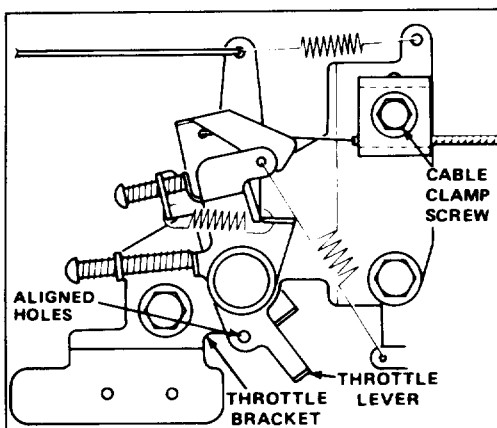

Figure 16
3. Loosen cable clamp screw until throttle cable slides (Fig. 16). Align holes in throttle lever and throttle bracket. Pull throttle cable slightly to remove any slack and tighten cable clamp screw to lock adjustment in place.